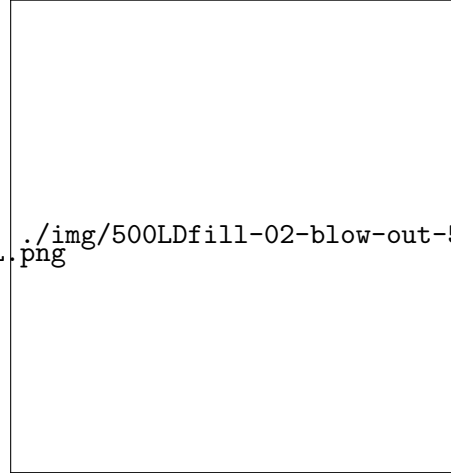

Figure 4.7: **Initial 500LD fill**, purging the 500LD with He gas (Step 5).
5. **[initial 500LD fill only]** Purge the 500LD with helium gas by hooking up the pressurization line, closing the main flow valve, opening the pressure release valve and putting 5 pounds of pressure on the 500LD for about 10 minutes (Figure 4.7). Remove the pressurization line.